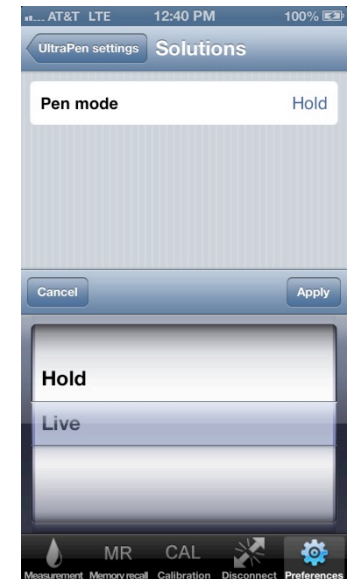

Figure 12
- A picker wheel will appear showing two choices (see Figure 12):